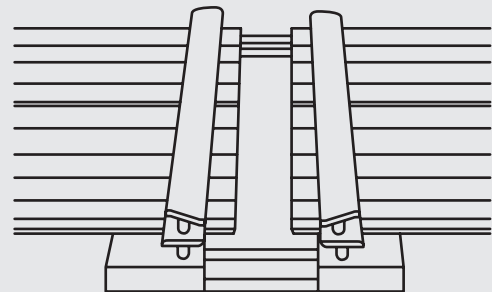

Fig.2
- 4- Loosen the clamps and slide back allowing approximately 10-15mm of waterstop to protrude from both ends, then clamp the jigs tightly in position. At this stage when the jig slides together the ends should meet squarely and the profiles are to match up. If the waterstop is not square to each other or the profiles do not meet up, loosen the clamps on the jig and Adjust the waterstop until ends meet up perfectly, tighten up the clamps ready for welding. (Refer Fig. 2)